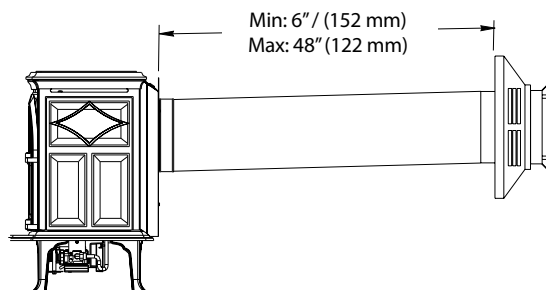

Figure 21.
- Use of 4" x 6 5/8" vent horizontally terminated, requires that the Secondary Exhaust Baffle be removed. See figs. 21 - 22.